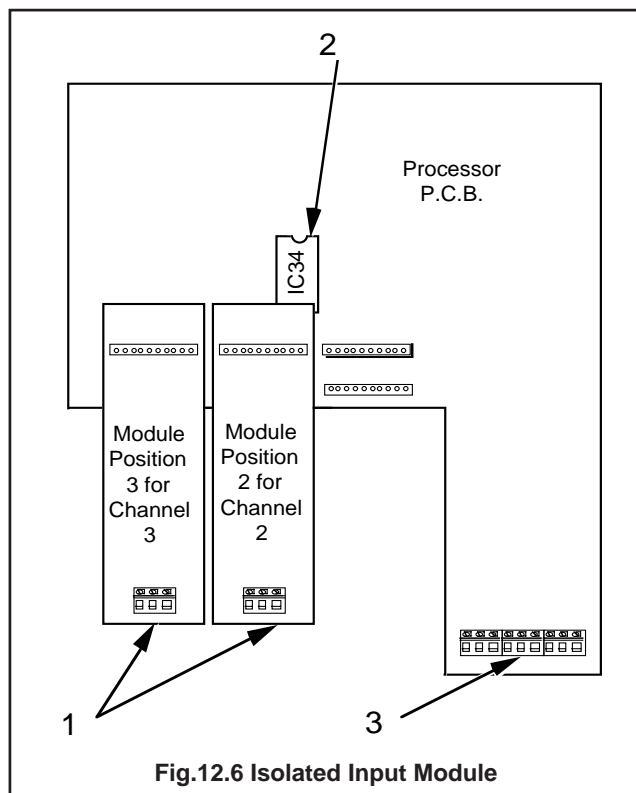

Fig.12.6 Isolated Input Module
12.2 Fitting an Isolated Input Module – Fig. 12.6
- Fit IC34 as indicated in Fig. 12.6, ensuring the correct orientation and using approved anti-static methods.